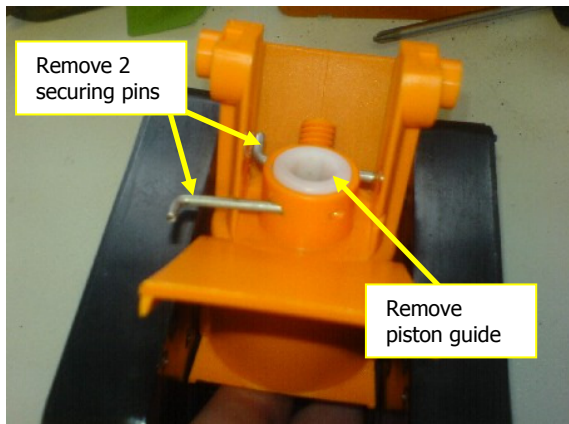
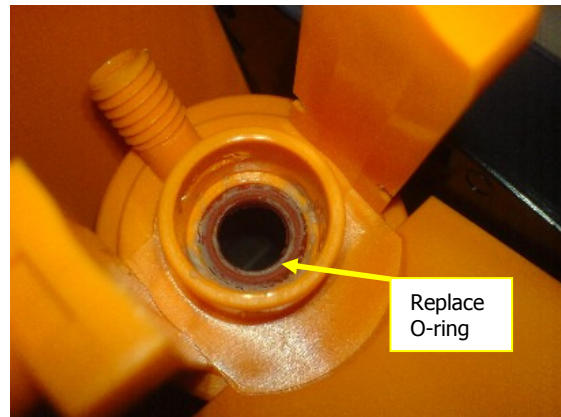

Fig. 8
Fig. 9
- 10) Remove the securing pins and remove the piston guide (Fig. 8) replace the lower piston O-ring (Fig. 9)